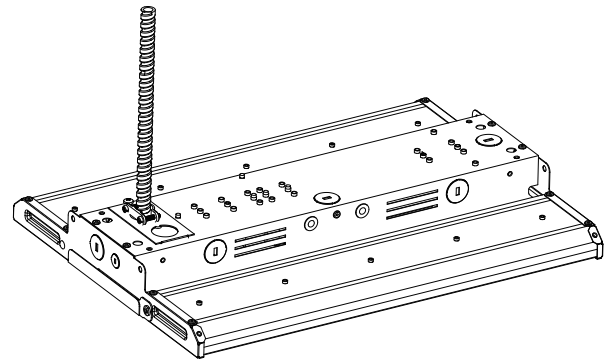

Figure 11
- Secure access panel with original screw to complete installation. (Figure 11)